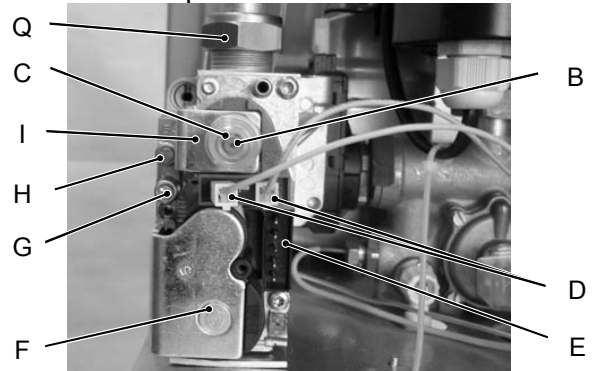

Figure 2
- 2) Open the gas valve inlet pressure test point (G in Figure 2) at the valve input, connect a suitable pressure gauge and check the gas pressure of the supply network.
- 4) Open the gas valve outlet pressure test point (H in Figure 2) and connect the gauge.
- 7) Rotate the maximum gas pressure adjustment (C in Figure 2) until you obtain the required pressure (by rotating clockwise the pressure increases).
- 8) Turn the boiler off and disconnect one of the two connectors (D in Figure 2).
- 9) Start the boiler and rotate the minimum gas pressure adjustment (B in Figure 2) until you obtain the required pressure (by rotating clockwise the pressure increases).